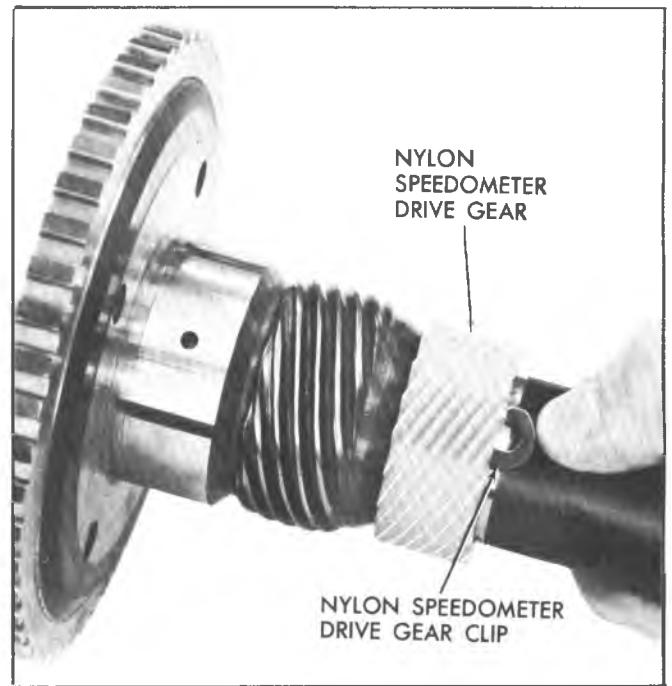

Fig. 46T—Removing Speedometer Drive Gear
1. Depress clip and slide speedometer drive gear off output shaft (Fig. 46T).